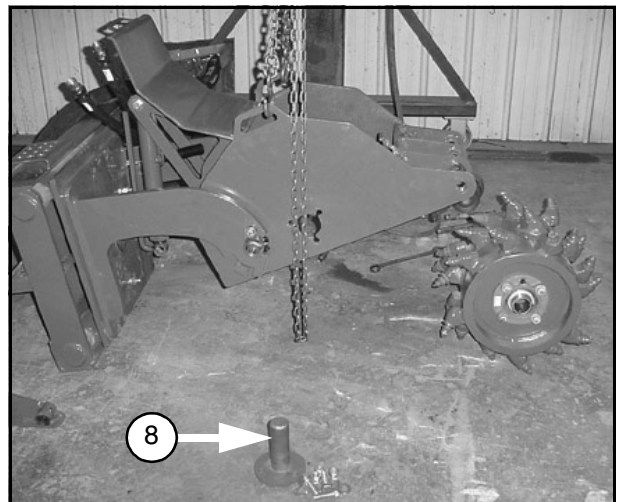

Figure 20.
11. Slide out the dead shaft (8) as shown in Figure 20.